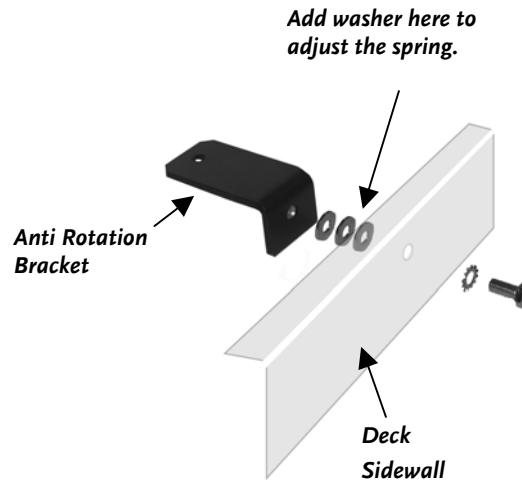

Figure 30
NOTE: If you are unable to achieve a correct adjustment of the Clutch Spring Hook in the Clutch Tab, it will be necessary to add the third Flat Washer (**Figure 30**) to the Anti-Rotation Bracket Assembly and repeat steps 16 through 20 using three (3) Flat Washers.